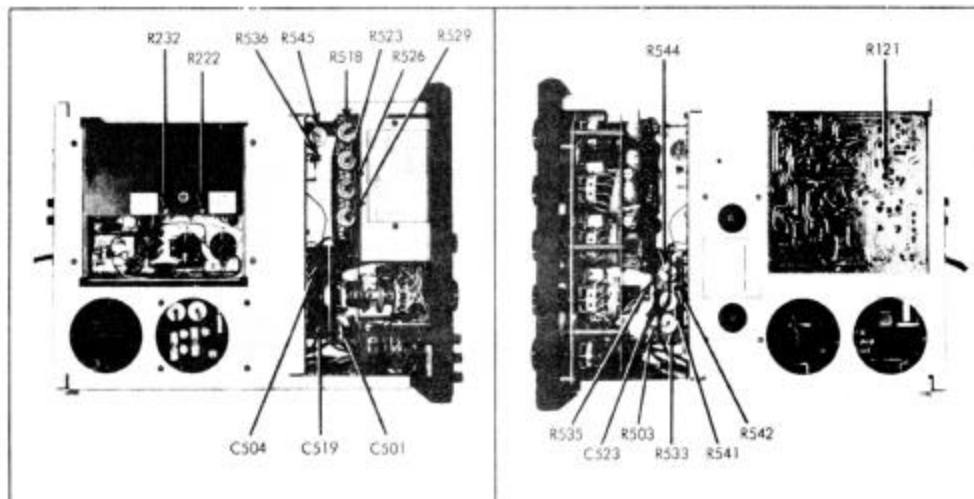

Figure 4-4. ADJUSTMENT LOCATIONS
a. GENERAL. The calibration procedure is divided into two main parts: DC differential voltmeter calibration (paragraph 4-4b) and AC to DC converter calibration (paragraph 4-4c). The 803D may be calibrated as often as deemed necessary. However, it is recommended that DC differential voltmeter calibration be done every 3 months. The AC to DC converter calibration should be done every month. For special applications where extreme accuracy is required, it may be desired to calibrate the instrument more often. Calibration should be accomplished in a draft-free area with an ambient temperature of 72(±3)°F for maximum accuracy under laboratory conditions. The recommended equipment and the specifications required for calibration are shown in figure 4-3. All controls on the cabinet model may be located with the aid of figure 4-4. The instrument must be calibrated in its cabinet. The ventilation holes on the cabinet model provide an easy means of reaching R121, R222, and R232. An insulated screwdriver must be used when adjusting these controls to prevent shorting the control to chassis ground. To reach the calibration controls at the front of cabinet models, the instrument must be slid partly out of its cabinet. On rack models, all controls may be easily reached through labeled access holes.
(1) Preliminary Calibration Procedure.